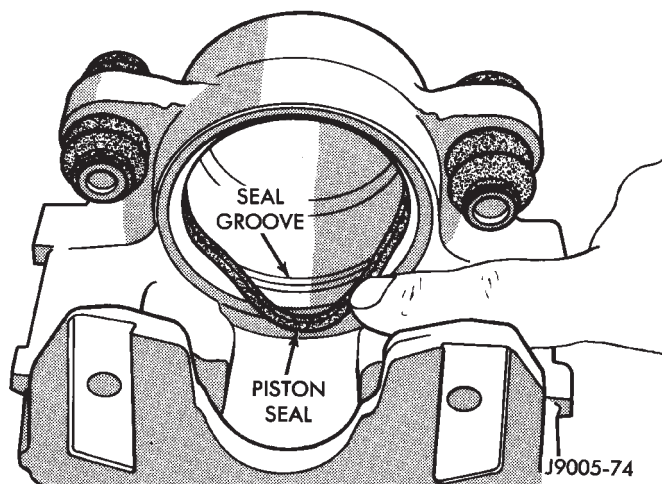

Fig. 18 Installing Piston Seal
(4) Install new piston seal in caliper bore. Press seal into seal groove with finger (Fig. 18).